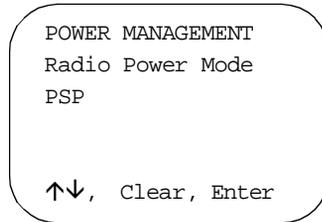

Figure 4-10. Power Management Screen
- i. Select **Power Management** from the main configuration menu. The *Power Management* screen (Figure 4-10) is displayed.